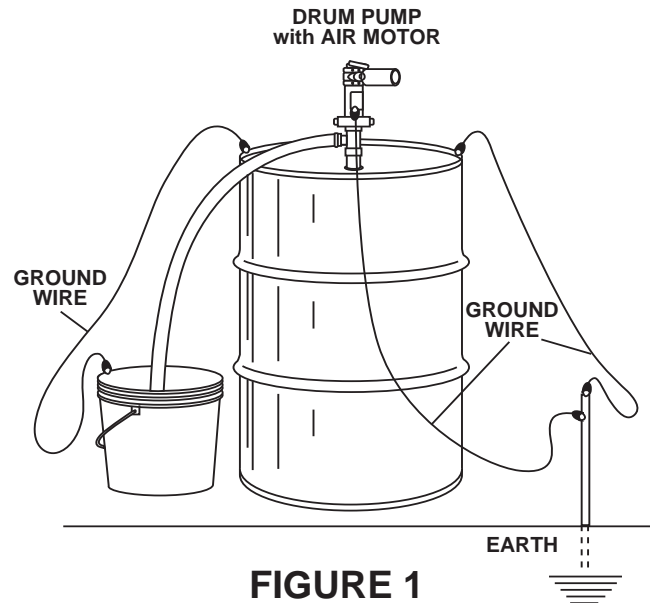

FIGURE 1
10. **Static Charge:** Certain fluids when pumped create a static electrical charge. Should this static charge discharge across a gap between the pump tube and the fluid container or another object in an area where flammable vapors are present an explosion and death may occur. Grounding wires must be attached as shown in Figure 1. Use JABSCO part no. 16471-000.